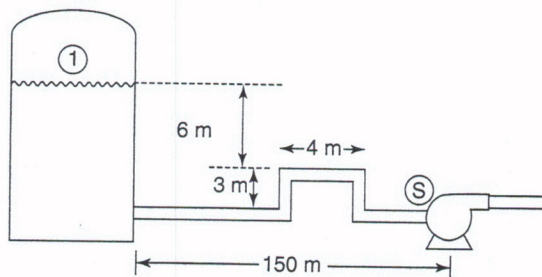

Figure 9.54
35. The pump with characteristic curves given in Figure 9.38 is installed as shown in Figure 9.54. The pressure in the tank headspace is 1,660 mmHg, and the desired flow rate is 2.2×10^4 gpm. If frictional head loss $h_f = F_{s,1}/g$ from the reservoir to the pump inlet is 11.0 feet, at what elevation should the pump suction be placed relative to the feed-tank fluid level to avoid cavitation for water at 122°F? All piping is 6.0 inches ID.